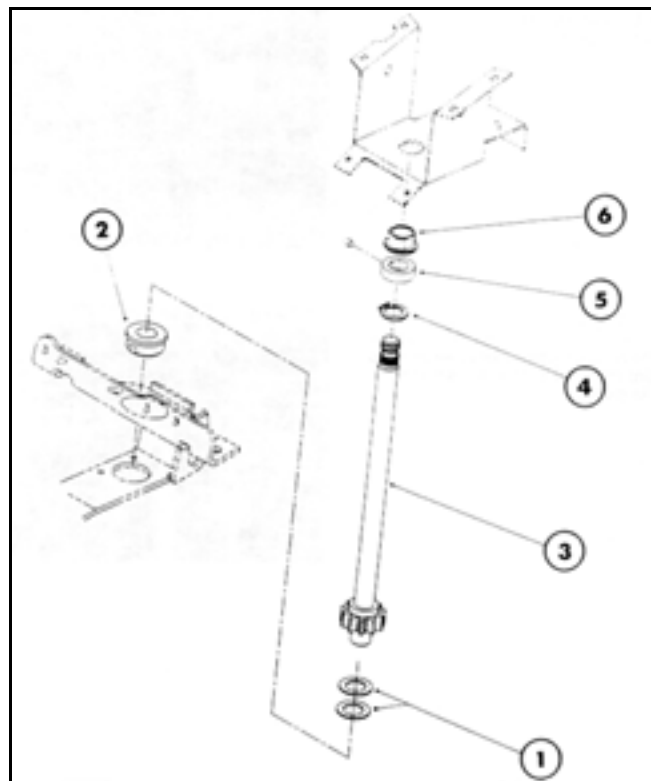

Figure 33
5. Move the locking collar upward on the shaft until it touches the column support mid bushing. Tighten the collar set screw, then move the snap ring upward on the shaft until it meets the bottom of the locking collar (Figure 33).